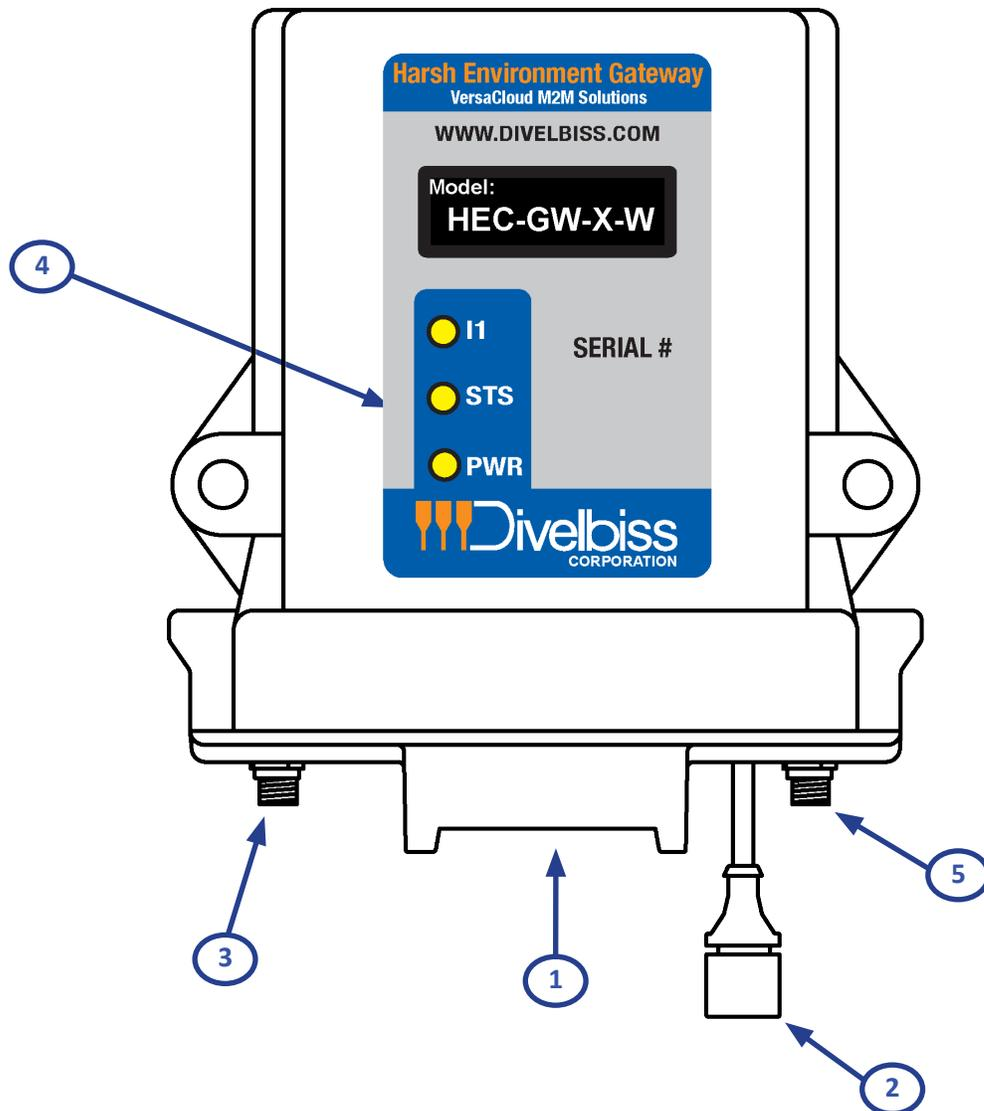

Figure 1-5 - HEC-Gateway Device Features
Figure 1-5 illustrates the HEC-Gateway device and it's external features.
The HEC-Gateway main power is supplied by the pluggable 'A' connector. Refer to Figure 1-5 for location of the 'A' connector. Input current can vary based on model and mode of operation.
The HEC-Gateway Device provides two pre-defined on-board LED indicators. Refer to Figure 1-5 for general locations of the LED indicators which are viewable externally. The two indicators are: PWR and STS.
There is one (1) user programmable LED indicator (Green) on the HEC-Gateway. This LED indicator is available for use in the ladder diagram program for any purpose. Refer to Figure 1-5 for the LED indicator location which is viewable externally..
The HEC-Gateway Device provides an NMEA Compliant CAN port (CAN Port 1) for communications to / from external devices. As a NMEA Compliant Port, it can be connected directly to an NMEA 2000 bus or it may be used as any standard CAN port. The CAN port is accessed by Connector A (See Figure 1-5 for location of Connector A)